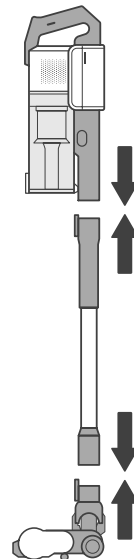

Figure 1.2
2. Attach the vacuum head or a nozzle attachment to the bottom of the stick, then attach the vacuum body to the top of the stick. [Figure 1.2]